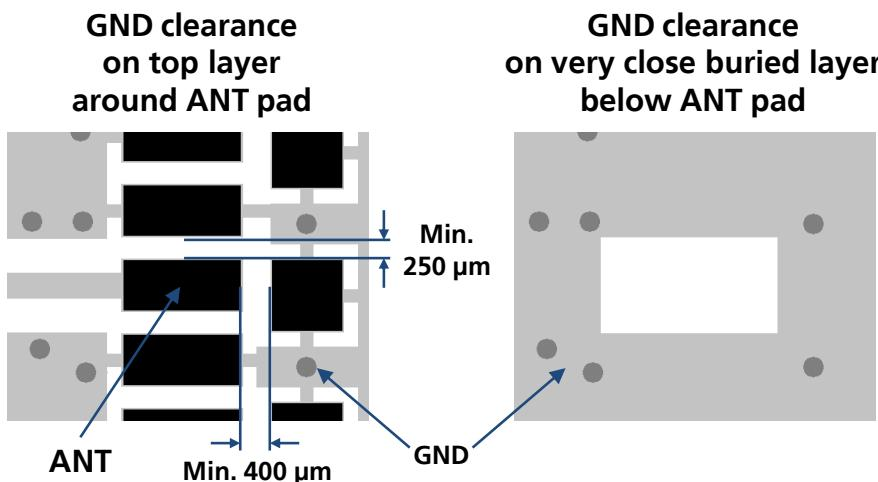

Figure 48: GND keep-out area on the top layer around ANT pad and on the very close buried layer below ANT pad
- Increase GND keep-out (i.e. clearance, a void area) around the **ANT** pad, on the top layer of the application PCB, to at least 250 µm up to adjacent pads metal definition and up to 400 µm on the area below the module, to reduce parasitic capacitance to ground, as described in the left picture in Figure 48
- Add GND keep-out (i.e. clearance, a void area) on the buried metal layer below the **ANT** pad if the top-layer to buried layer dielectric thickness is below 200 µm, to reduce parasitic capacitance to ground, as described in the right picture in Figure 48